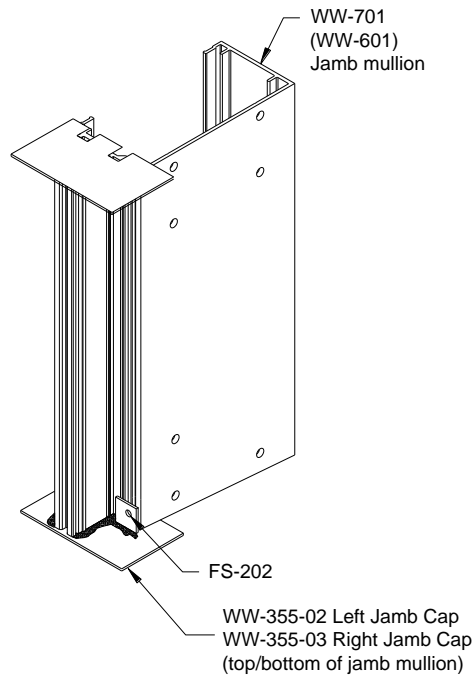

Figure 4: Jamb/Mullion End Caps
- 3.3 Install and seal end caps to top and bottom of jamb mullions with (1) FS-202 #8 X 1/2" PPH screw. **See FIGURE 4.**